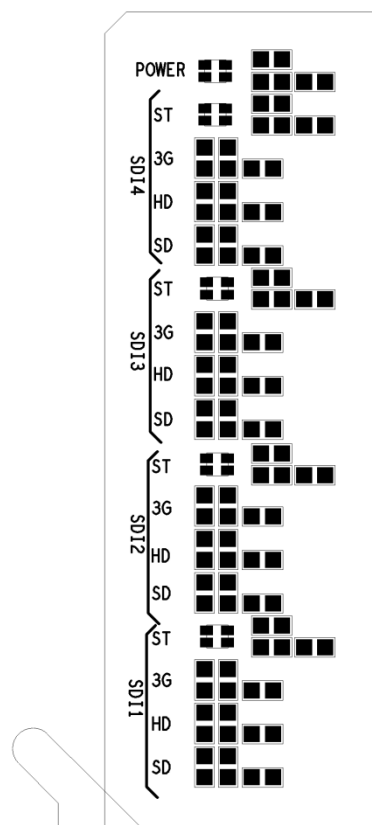

Figure 1. Front of HD-4000-FTX
The front of the transmitter card is shown in figure 1. This card uses an OpenGear rear panel with up to four 75 Ohm BNCs for SDI inputs and up to 4 fiber connectors for outputs. These fiber connectors can be ordered in different types as needed. In the front of the module we see a dual power/status LED and four sections of four LEDs to cover up to four SDI channels, SDI1 to SDI4. The power/status LED lights blink green in regular operation, and red to indicate some internal problem in the card. Each SDI channel includes 3 rate LEDs to indicate re-clocker lock at 270 Mbps, 1.485 Gbps or 2.970 Gbps rate. A fourth dual status LED indicates when there is a SMPTE SDI signal present. This LED will light green when a signal is present or red when is not; this is also known as Carrier Detect (CD).
Very similar to the transmitter card, the receiver module front of the card is shown in figure 1. In addition, this uses an OpenGear rear panel with up to four 75 Ohm BNCs for SDI inputs and up to 4 fiber connectors for outputs. These fiber connectors can be ordered in different flavors as needed. In the front of the module we see a dual power/status LED and four sections of four LEDs to cover up to four SDI channels, SDI1 to SDI4. The power/status LED lights blinking green in regular operation, and red to indicate some internal problem in the card. Each section of SDI includes 3 rate LEDs to indicate re-clocker lock at 270 Mbps, 1.485 Gbps or 2.970 Gbps rate; in addition, there is a fourth dual status (ST) led to indicate that there is optical signal in the FOM input, this is referred as Signal Detect (SD). This LED will light green when a signal is present, yellow when is a weak signal, or red when is no signal.